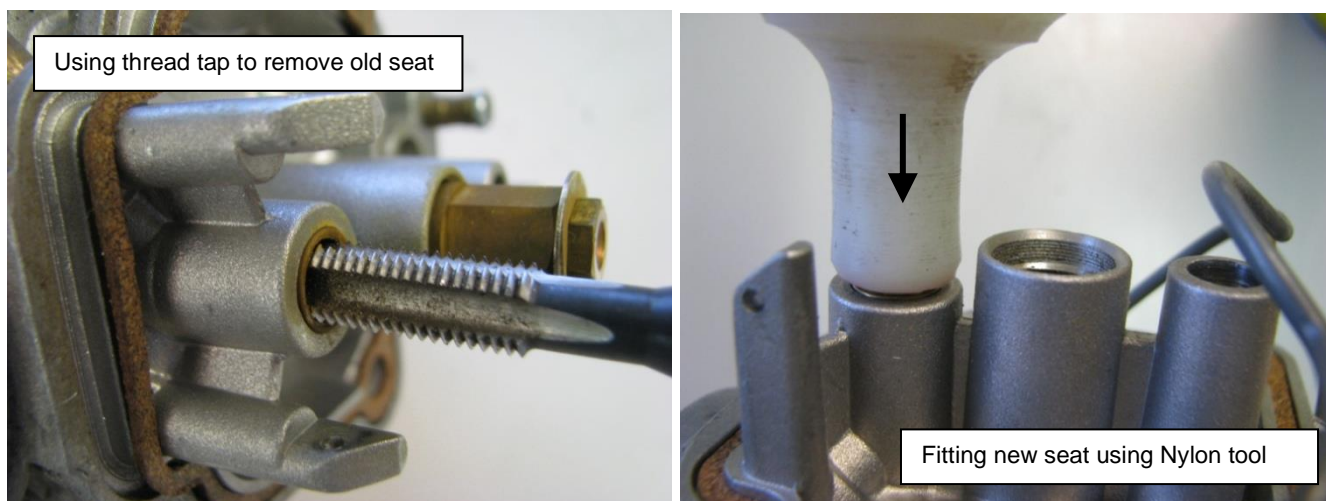

Figure 117 – Fitting New Float Needle Seat
- The float bowl needle seat must be checked. 3300 engines use a 2.4mm diameter, specially shaped orifice in this part while the 2200 engine uses 2.0mm – though the 2.4mm seat is also acceptable for 2200 applications. Figure 30 shows the tools needed to change the seat which is located in the carburettor body above the float needle. As noted at Figure 30, if the seat is to be changed a tap is used to remove the old part and a special nylon drift used to install the new. More details of this process are included in Section Figure 117.